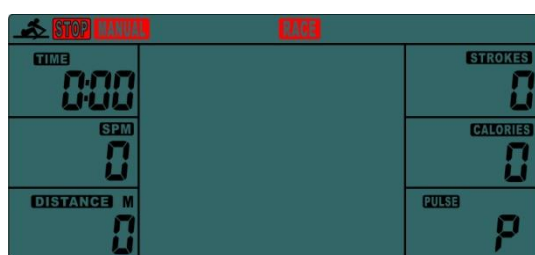

Fig.1
1. Install 2PCS AA batteries (included) and computer will beep for 2 seconds (Fig.1). Then, the computer enters into the "CLOCK" & "CALENDAR MODE" (Fig.2).
Sit on the saddle and fasten your feet to the pedals using Velcro straps. Then take hold of the rowing bar. Take the start position, lean forward with your arms straight and knees bent as shown in Fig. 1. Push your body backwards while simultaneously straightening your back and legs (Fig. 2). Continue this movement until you are leaning slightly backwards. Bring your arms out of the side during this phase (Fig. 3). Thereafter return to the second position and repeat it as shown below.